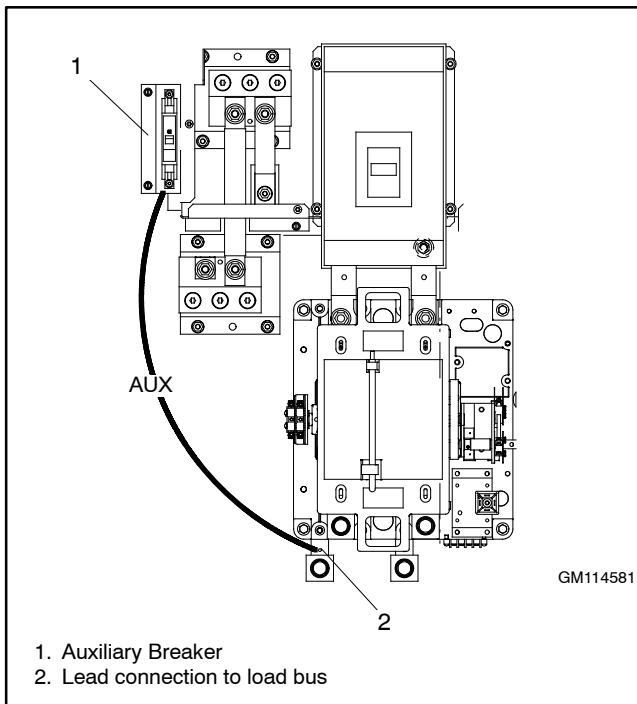

Figure 13 Auxiliary Breaker Connection, Harness GM116678 or GM116679 (300- 400ASEQS4 and 300- 400CSE)
4. Use screw X- 67- 59 to connect the ring terminal to the load bus. See Figure 13. Tighten the connection to 2.25 Nm (20 in. lbs.)